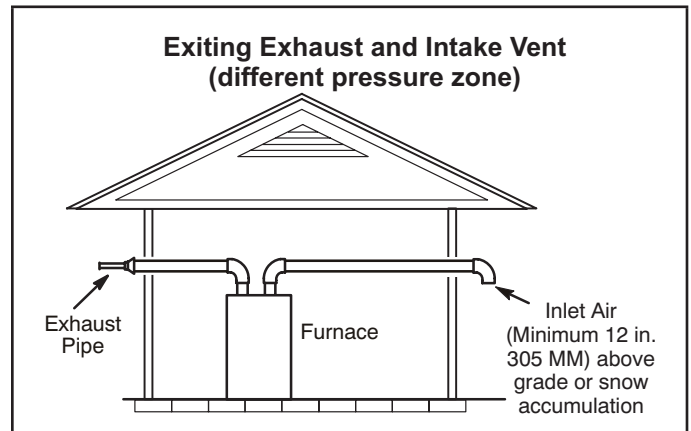
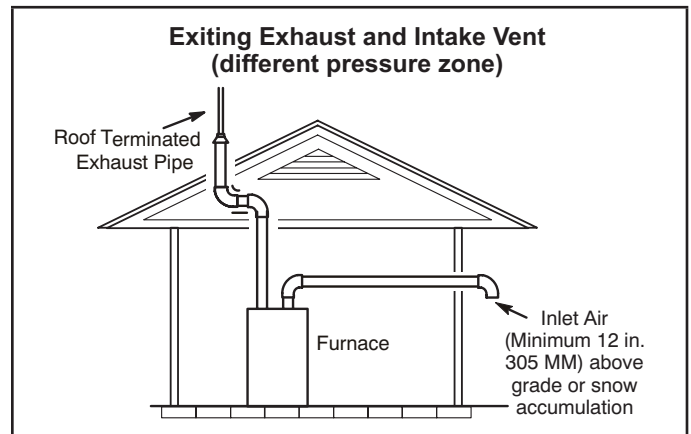

FIGURE 37
FIGURE 38
- 1 - Intake and exhaust terminations are not required to be in the same pressure zone. You may exit the intake on one side of the structure and the exhaust on another side (FIGURE 37). You may exit the exhaust out the roof and the intake out the side of the structure (FIGURE 38).